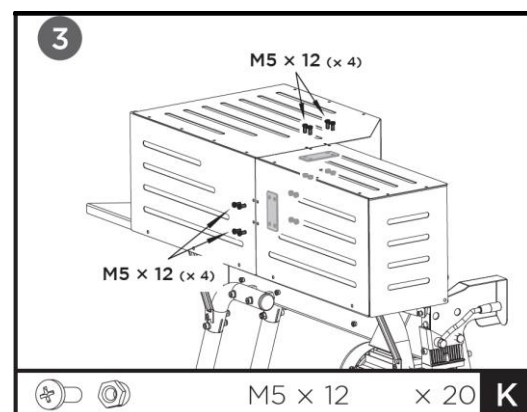

Fig. 11b
3. Connect the two top guard plates (m & n) to the rear guard plates (o & p) using plate connectors and M5x12 bolts and nuts (K). See Fig. 11b.